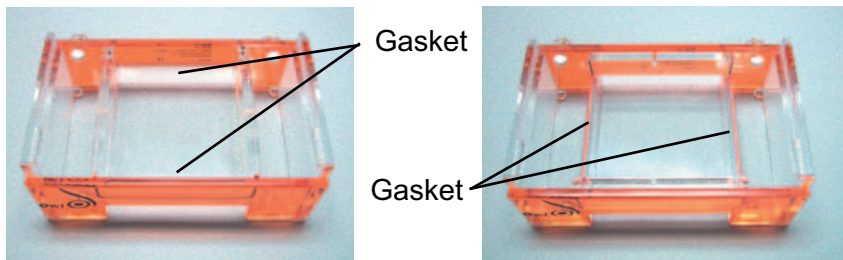

Figure 3-1. Tray Positions
3. To cast gels, place the UVT gel tray into the buffer chamber in the casting position (Figure 3-1), making sure the gel tray rests level and centered on the platform. Be sure the gasketed ends of the gel tray press against the walls of the buffer chamber. Thermo offers a leveling platform, Catalog No. B-LP, Section 8, if needed.
1. Once the gel is completely solidified, lift the tray out of the chamber, turn it 90° in the running position (see Figure 3-1), and replace it in the chamber with the first comb closest to the cathode side of the chamber. This running position exposes the open ends of the agarose to the buffer. Standard agarose should solidify completely in about 30 minutes. If low melting point or a speciality agarose is used, consult the instructions that came with the product.